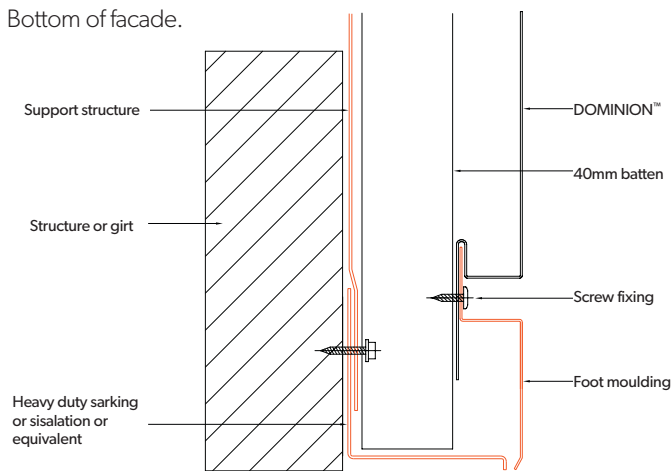

Figure 12.2.7:
5. The perimeter of the membrane must be sealed also with premium quality Sisal tape with holding or 40mm battens to secure it. Figure 12.2.7.